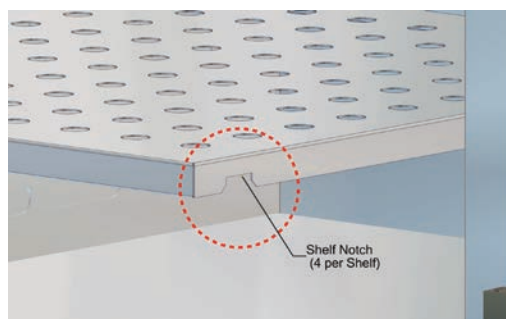

Figure 19: Shelf Notch
2. Install the 4 shelf support clips into the desired location by inserting the top tab into the upper wall slot of that position (Figure 17 & Figure 19). Push up slightly on the inserted top tab and push the bottom half of the clip in until the bottom tab snaps into the lower slot.
4. Install the shelf with the notches on the bottom of the shelf aligned with the shelf supports (Figure 18 & Figure 19).